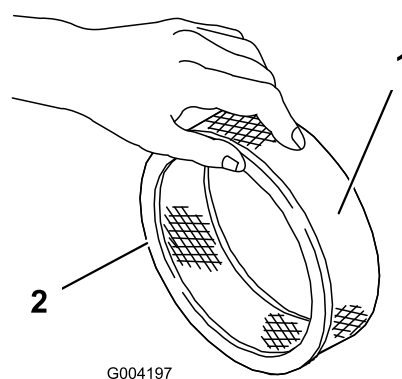

Figure 20
5. Inspect the paper filter for tears, an oily film, and damage to the rubber seal (Figure 20).
1. Carefully slide the foam pre-filter onto the paper filter (Figure 20).